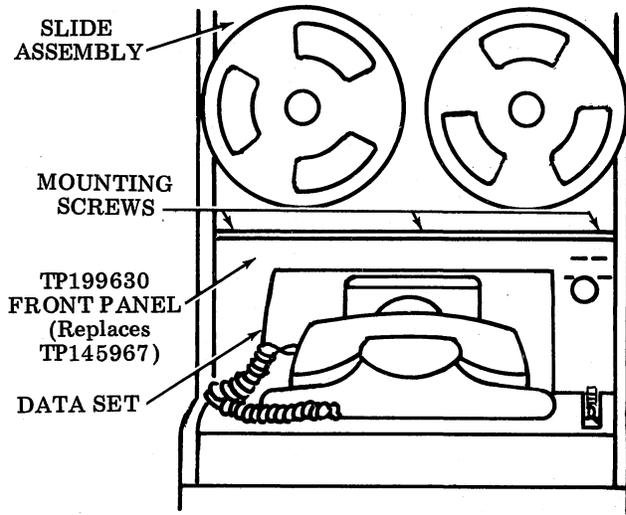

Figure 1 - TP199630 Front Panel Mounting
3.04 To remove the TP145967 front panel (Figure 1), pull slide assembly forward, three mounting screws can now be reached and removed. Retain the three screws and leave the speed nuts in position. Remove the panel from the cabinet by pulling it away from the cabinet and lifting up. Discard the TP145967 front panel.